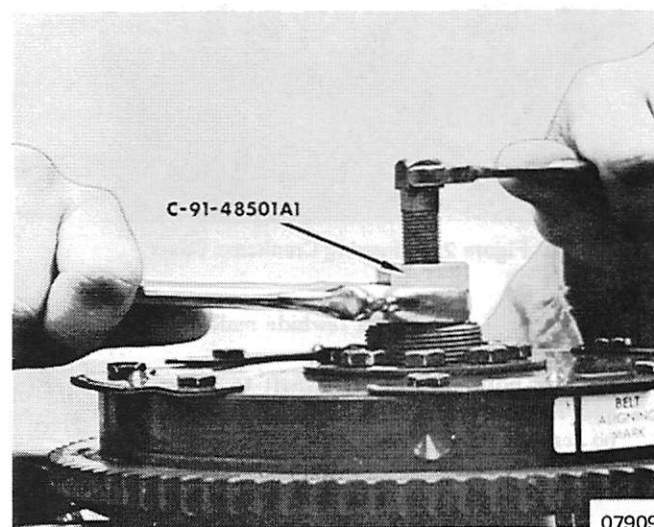

Figure 4. Removing Flywheel
13. Remove flywheel nut and washer and remove flywheel with Crankshaft Protector and Flywheel Tool (C-91-48901A1). (Figure 4)